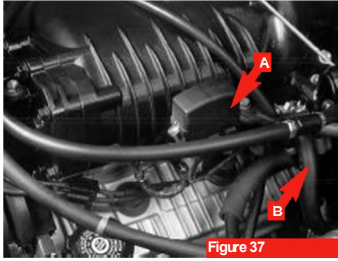

Figure 37
12. Install the diagnostic plug bracket and the ground connector to the driver's side of the supercharger. Install the diagnostic plug (see arrow A, figure 37).
13. Install the fuel return line bracket to the driver's side of the manifold (see arrow B, figure 37).